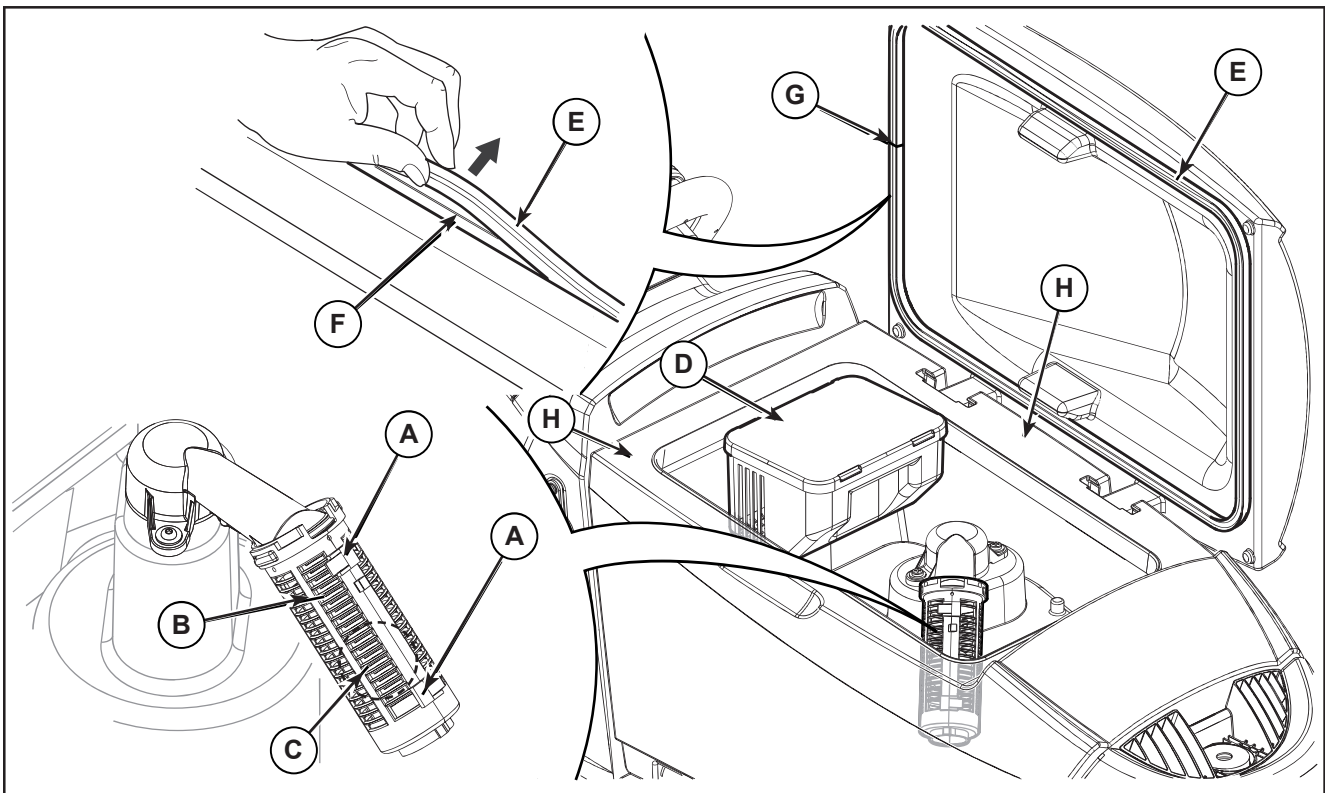

Figure 4:
4. Clean the vacuum grid (B) (Figure 4), release the fasteners (A), open the grid (B) and recover the float (C), then clean carefully and reinstall.
5. Remove the debris collection tank (D) and open its cover, then clean it carefully.
8. Check the condition of the tank cover gasket (E).